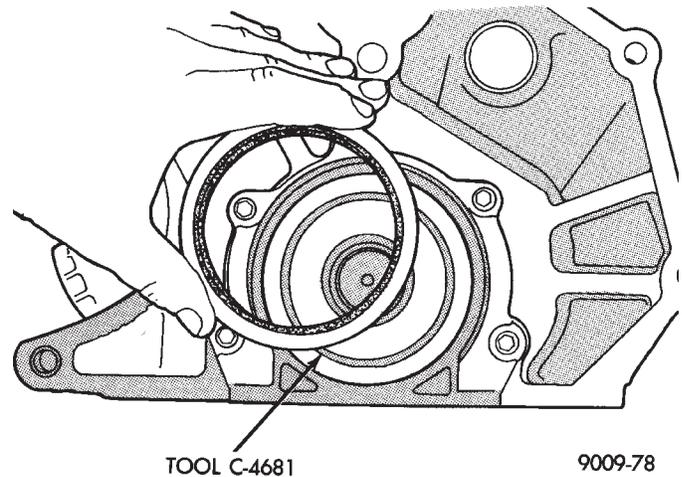

Fig. 9 Installing Rear Crankshaft Oil Seal
(1) Place Special Seal Pilot Tool C-4681 on crankshaft (Fig. 9).
(2) Lightly coat seal O.D. with Loctite Stud N' Bearing Mount or equivalent.
(3) Place seal over Special Seal Pilot Tool C-4681 and tap in place with a plastic hammer.